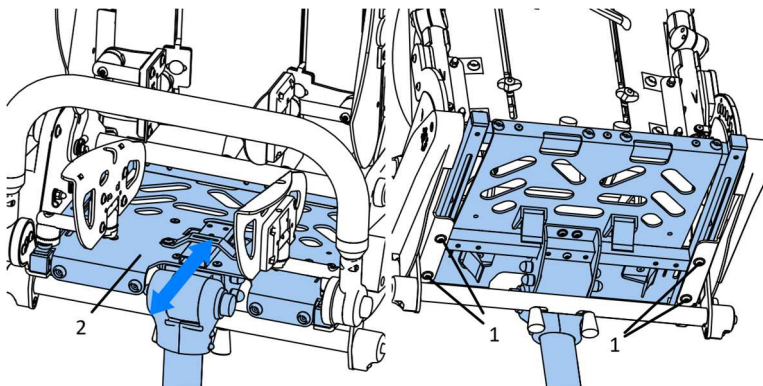

Fig. 17
Adjusting the depth of the seat Fig. 17 allows for precise adjustment to the patient's needs. To adjust the seat depth, use the H4 wrench to loosen the screws (1), then move the seat platform (2) front to back to the correct position. To lock the adjustment, tighten the screws (1).